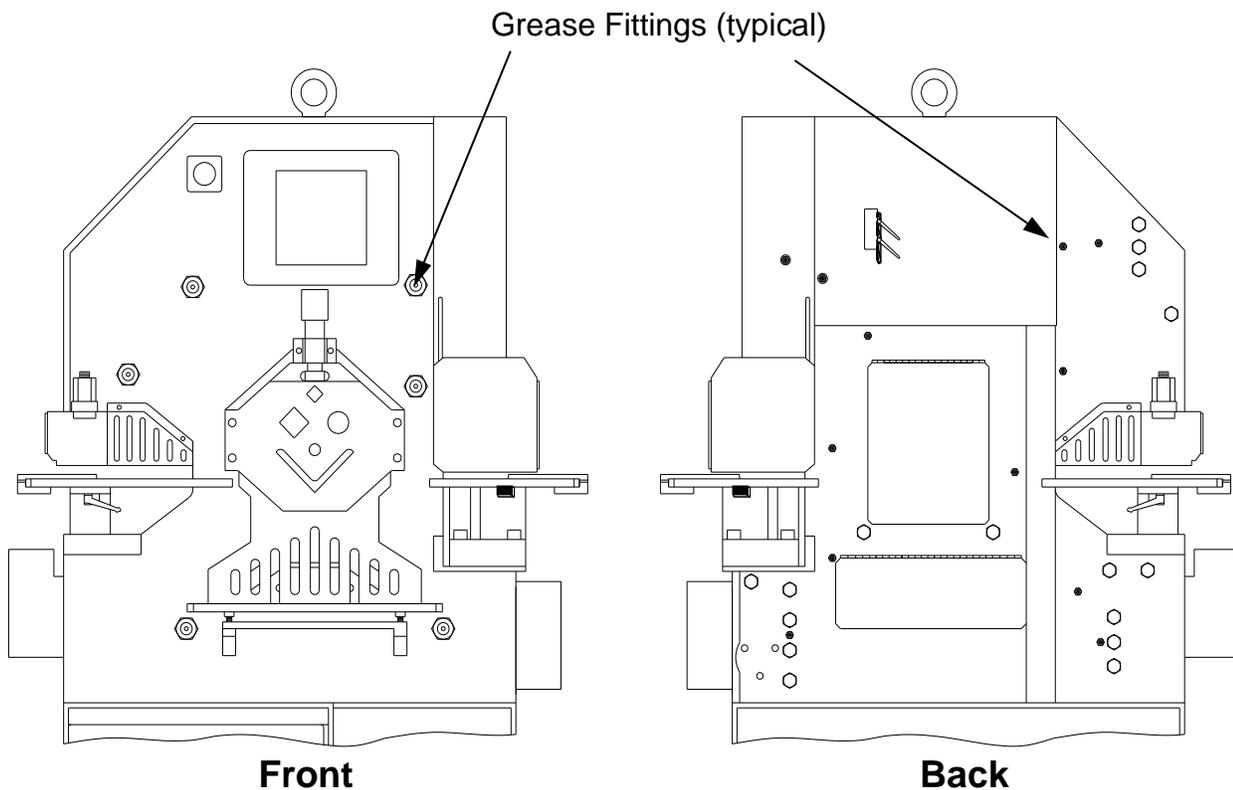

figure 18
Lubricate the machine with recommended grease every 8 working hours using the grease gun provided. See (fig. 18) below to locate the grease fittings. There are (6) grease fittings on the front and (10) grease fittings on the back.